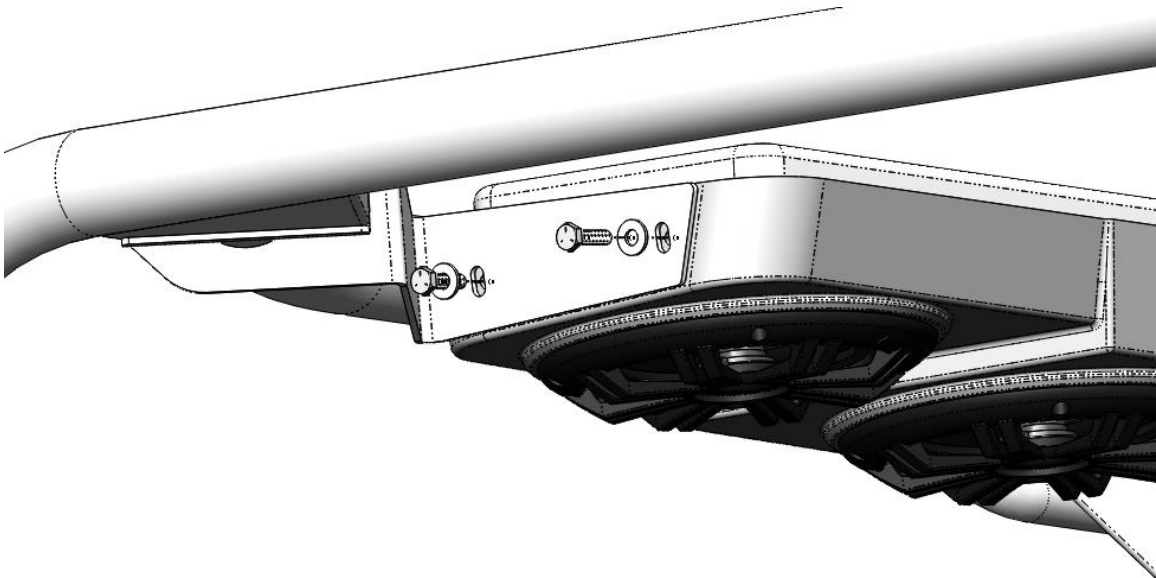
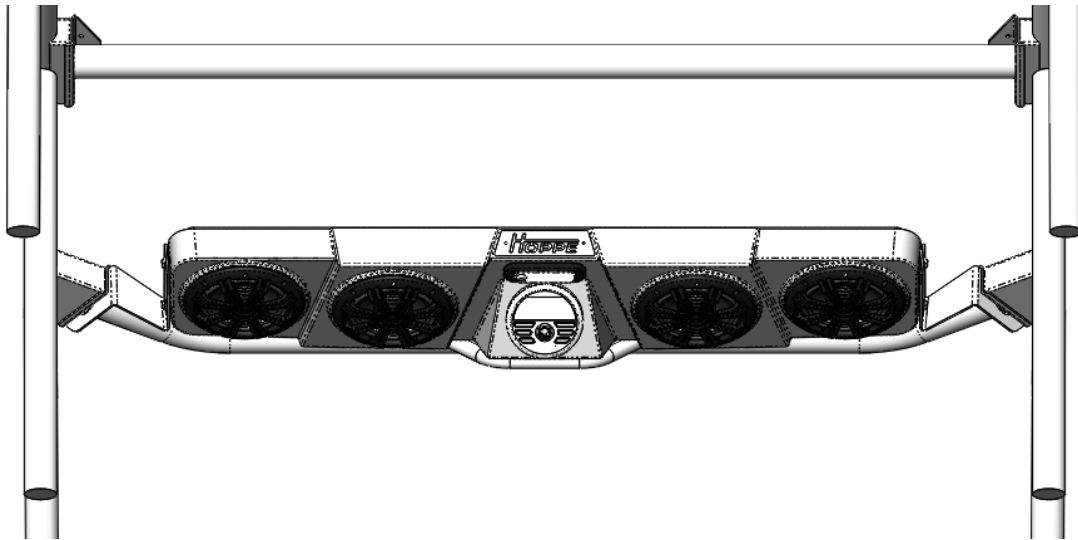

Figure 6: Install the $\frac{1}{4}$ "-20 bolts and washers to mount the *Audio Mini* to the brackets.
Figure 7: Loosely install the sound system on the mounting brackets.
4. Using an assistant, hang the *Audio Mini* off-road sound system on the brackets using the supplied $\frac{1}{4}$ "-20 bolts and washers (loosely tightened). **Note: The sound system weighs up to 25 lbs. Since you will have to lift overhead and bolt each end, it is helpful to have an assistant for this step.** See Figure 6 and Figure 7.